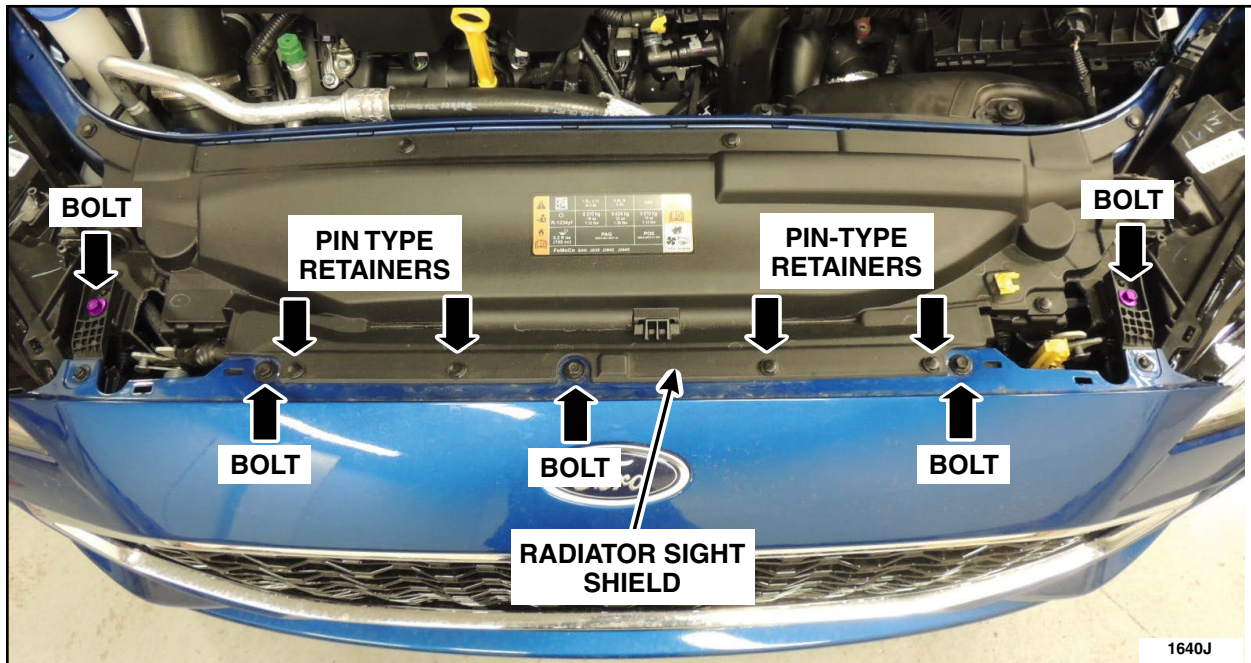

FIGURE 5
6. Remove the five upper front bumper cover bolts and four pin-type retainers. See Figure 5.
- Make sure the bumper cover is positioned under the radiator sight shield. See Figure 5.